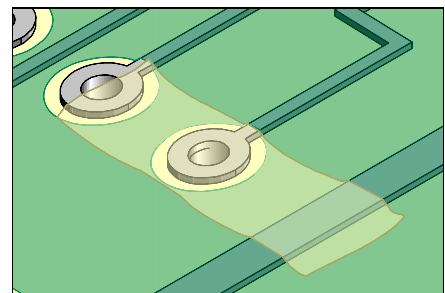

Figure 2: Place Kapton tape over the lifted land.
5. Place a piece of Kapton tape over the lifted land and press the land down into the epoxy and into contact with the base board material. (See Figure 2).